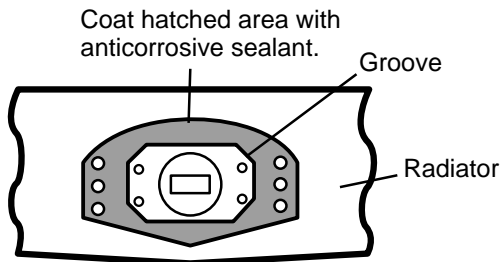
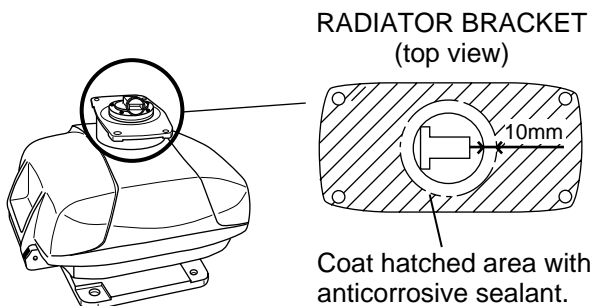

Figure 1-2 Coating the bottom of scanner radiator for XN10A with anticorrosive sealant
Figure 1-3 Coating scanner bracket for XN12A with anticorrosive sealant
2. Coat contacting surface between scanner radiator and radiator bracket with anticorrosive sealant as shown in Figure 1-2 (scanner unit XN10A) or Figure 1-3 (scanner unit XN12A).